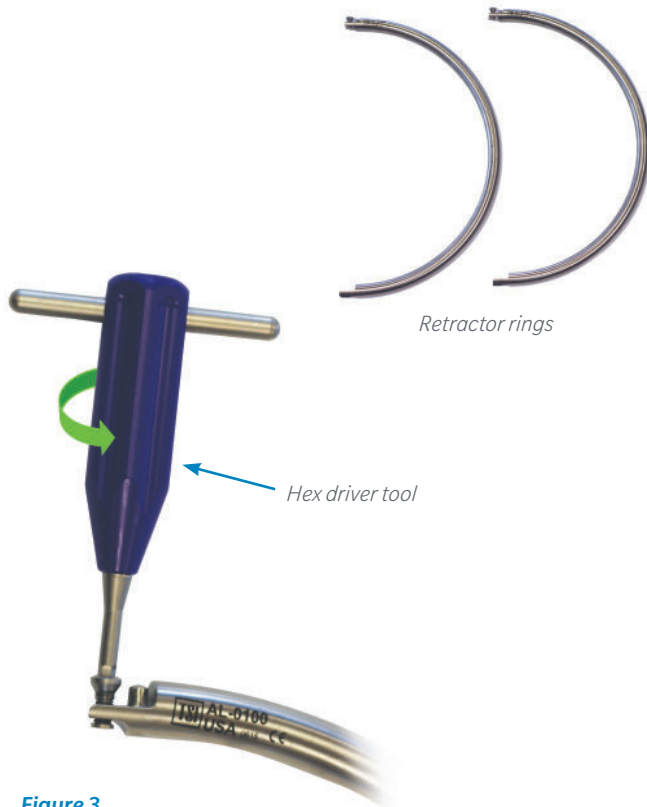

Figure 3
- The retractor ring consists of two ring segments. Loosen the screws on each ring segment using the hex driver tool (Figure 3).